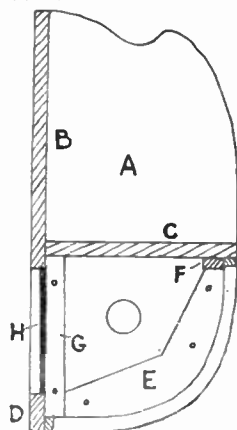
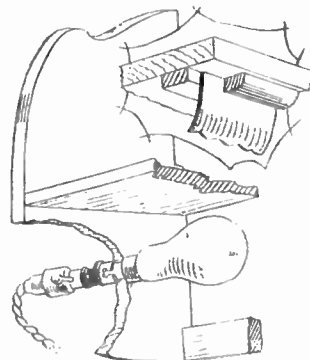

Fig. 2 End section
Fig. 6 Light fixing
Next prepare the lower rail (D). This will be 10 $\frac{1}{2}$ ins. long but only 1 in. wide. The intervening space between this rail and rail (B) above is filled with a piece of spare thin plywood or ordinary $\frac{1}{2}$ in. wood, shown as (H) in Fig. 2. It should not be fitted and fixed until all the rest of the work is finished, as it really forms a removable panel for getting to the lamp inside. Otherwise once the curved front is fixed, this back panel will form the only means of access for the renewal of bulb or for repairs. Fix the rail (D) by driving screws through the ends into it the same as the shelf above.
To form a fixing for the top edge of the curved paper front of the lamp, a strip of small section wood as $\frac{3}{4}$ in. by $\frac{1}{2}$ in. must be fitted between the pieces (E) and glued to the underside of the shelf. The strip is seen as (F), in the section, Fig. 2, and again in the detail, Fig. 6. The latter diagram also shows how the paper is glued to the strip and held securely by a fixing bead nailed on underneath the shelf.
The front fixing bead, however, should greatly reinforce the fixing. In Fig. 6 we include a sectional view, showing how the electric bulb is installed. Assuming the panel (H) has not